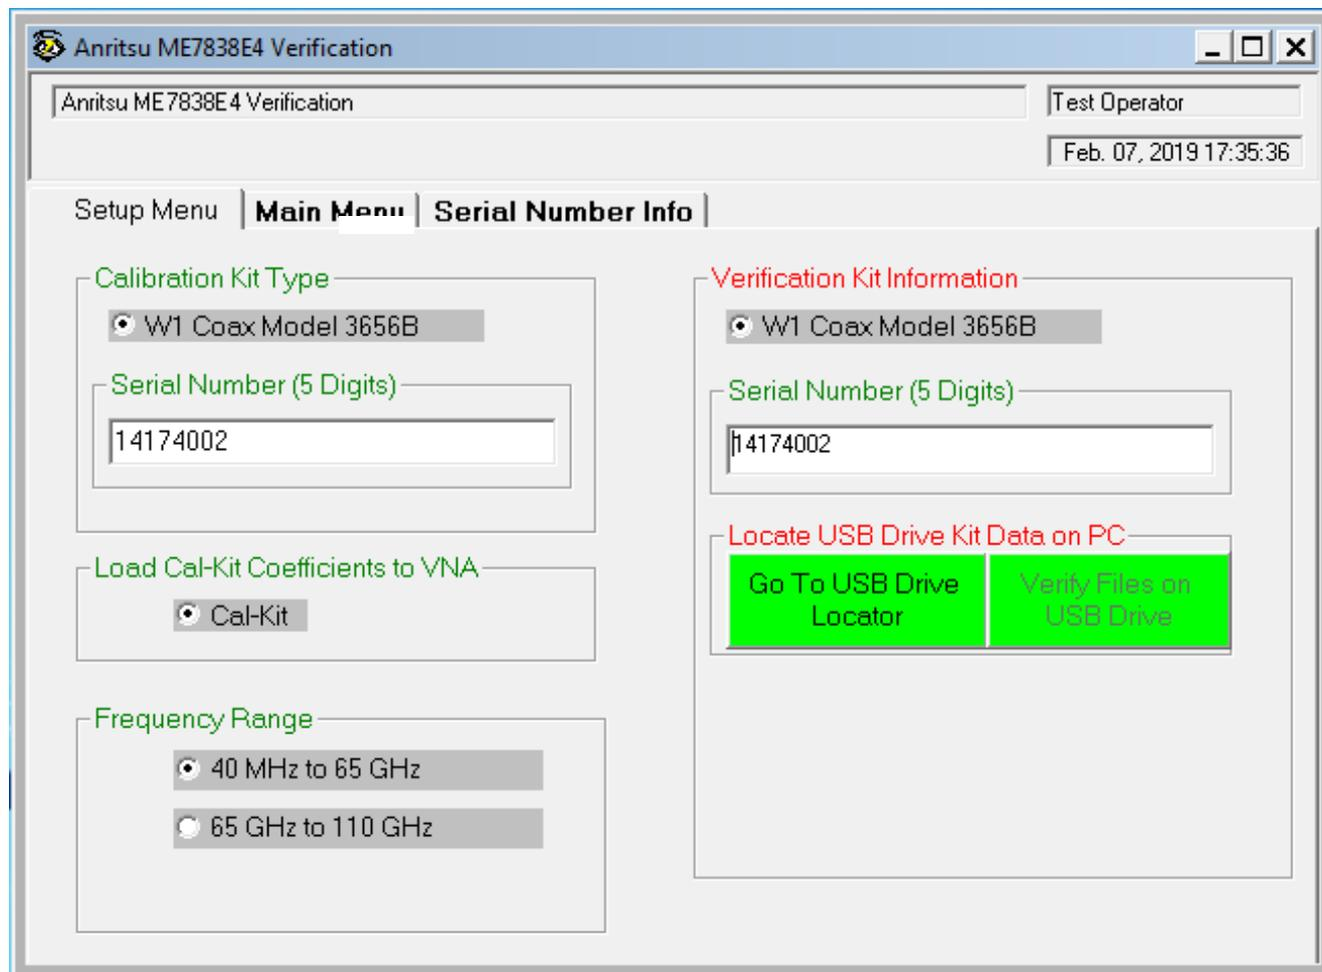

Figure 5-27. ME7838AE4 Application Interface – Setup Menu Tab
9. In Figure 5-27 find the Locate USB Drive Kit Data on PC area, click the Go To USB Drive Locator button.